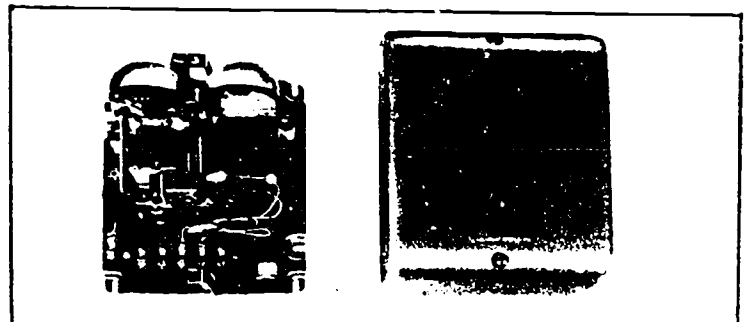

Figure 1-17. 687 ringer box.
d. Ringer Box. The 687 ringer box is illustrated in figure 1-17. The ringer shells, coil, wiring, and terminals are most evident in this picture. To the right is the cover you place over the equipment after having connected the wiring to the terminals.